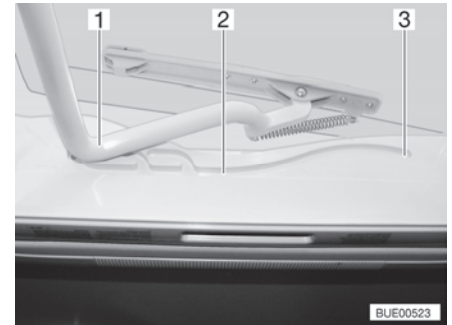

Fig. 52 Guide (Heki skylight)
- Pull the bar (Fig. 52,1) in the guides (Fig. 52,2) to the rearmost position (Fig. 52,3).
- Use both hands to push the bar (Fig. 52,1) slightly upwards.
- Pull the bar in the guides (Fig. 52,2) to the desired position.